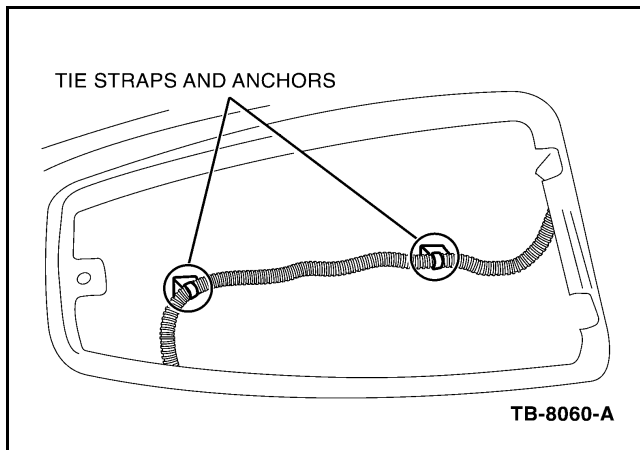

Figure 19 - Article 04-24-9
- k. Apply the two (2) tie strap anchors on the inside of the front cowl to hold the twisted pair. Figure 19 shows routing and location.